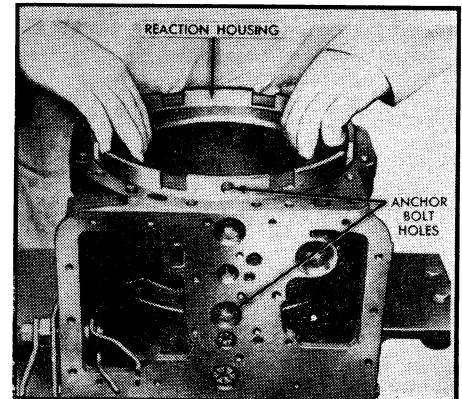

Fig. 10 Low clutch reaction housing
32. Remove low clutch reaction housing after removing anchor bolt, Fig. 10.
11. Install low clutch reaction housing, aligning the tapped hole in the plate with its corresponding anchor bolt hole in bottom of transmission case, Fig. 10. Install, *but do not tighten*, reaction housing anchor bolt.